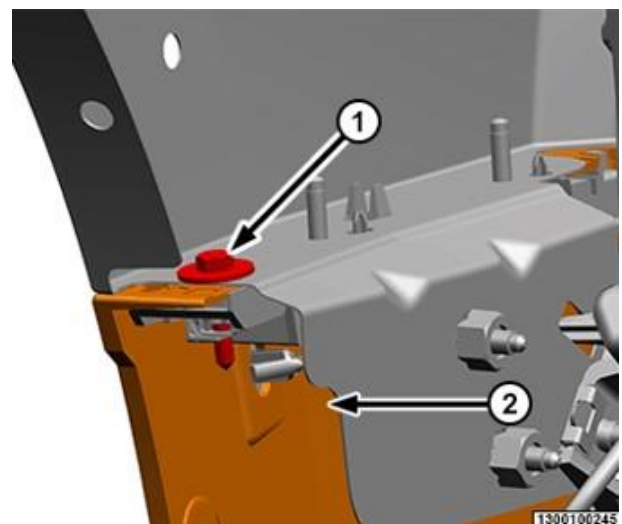

Figure B5 – Facia Fasteners
10. Remove the fasteners on each side of the fascia (Figure B5).